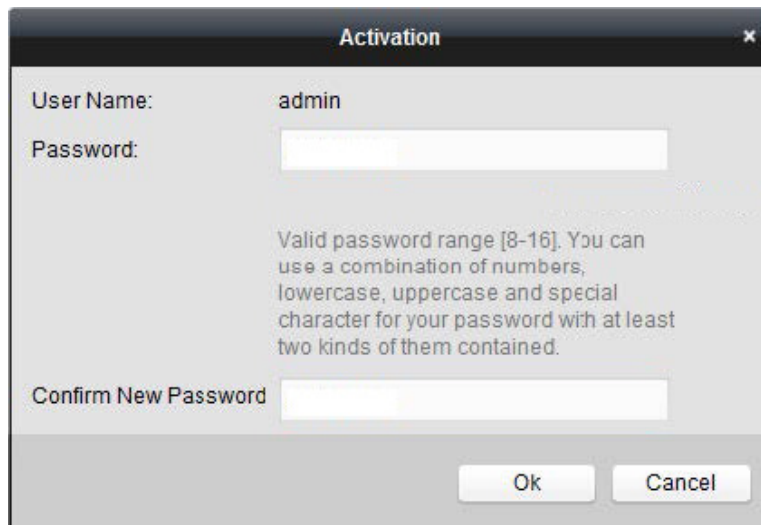

Figure 32, Activation Window
- Activation message will appear on the screen prompting user to activate the device (Figure 32).